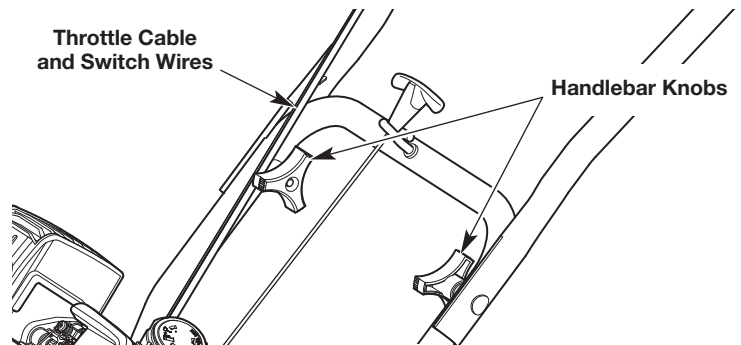

Fig. 3
1. Loosen the two knobs on the inside of the handlebars (Fig. 3).
**NOTE:** Take care not to pinch the throttle cable or switch wires when positioning the handlebar (Fig. 3).
3. Tighten the knobs to secure the handlebars in place (Fig. 3).